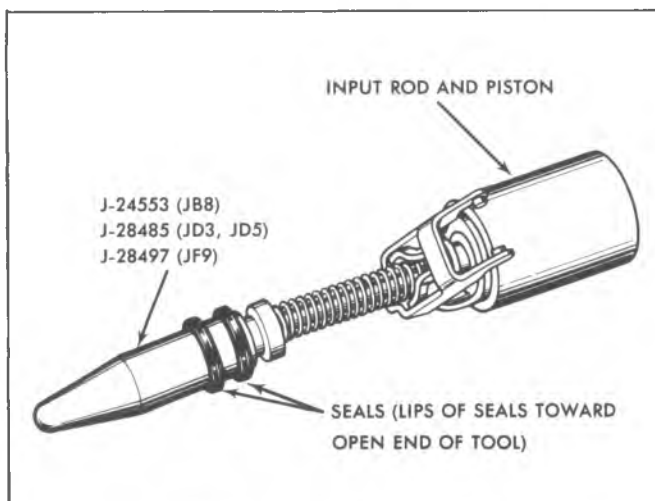

Fig. 5-12E—Installing Input Rod Seals
5. Lubricate the input rod end, **NEW** input rod seals and Seal Installer with clean power steering fluid. Slide the seals on the tool with the lip of the cups toward the open end of the tool (fig. 5-12E).